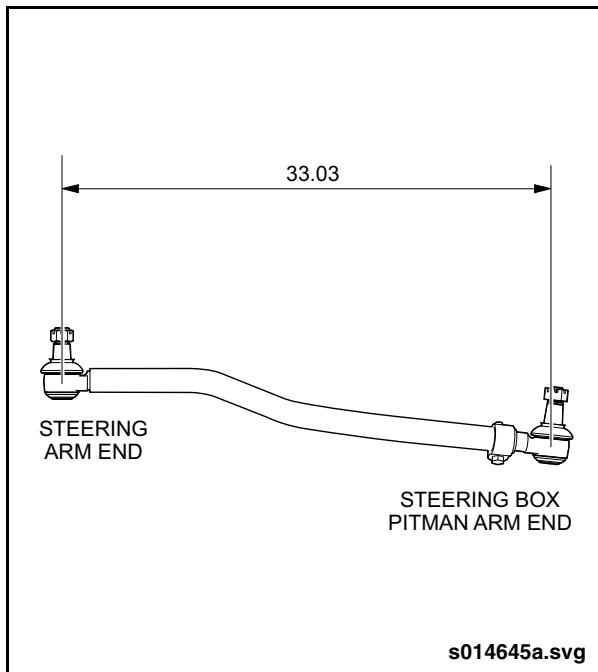

Fig. 3-16: Drag Link Adjustment
3. Thread new ball joint into the drag link and ensure the center-to-center length is correct. See "Fig. 3-16: Drag Link Adjustment" on page 29.